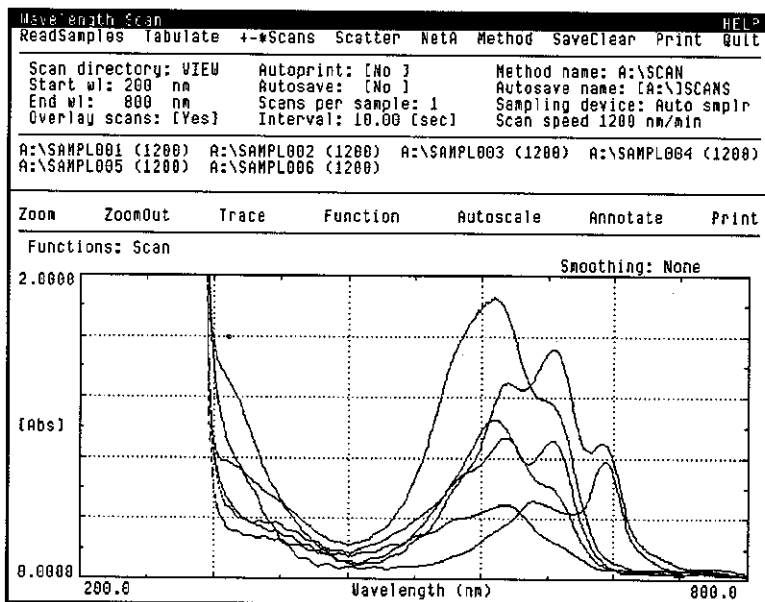

Figure 6-4. Wavelength Scan Window
3. The samples are scanned and the data are displayed. The data may be stored or printed automatically, based upon the selections for "Autosave" and "Autoprint". A typical Wavelength Scan window with overlaid data from multiple samples is shown in Figure 6-4.